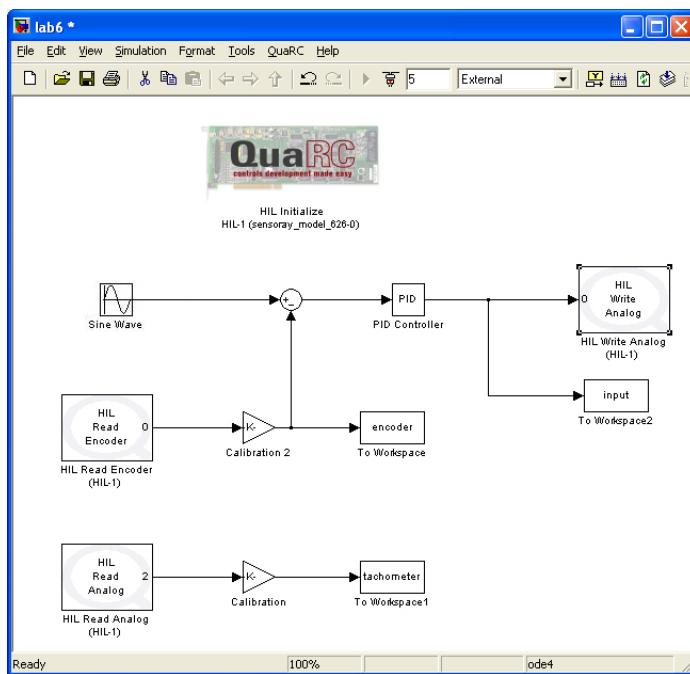

Figure 8.3: Simulink model for the implementation of PID control using frequency response method; sinusoidal reference
4. Now run the system with your “good” values for  $K$ ,  $T_D$ , and  $T_I$  and a sinusoidal input whose magnitude is 1 and whose frequency is the crossover frequency that was calculated above; see Figure 8.3 for the Simulink. What is the magnitude of the output compared to the input, and what is the phase of the output relative to the input?